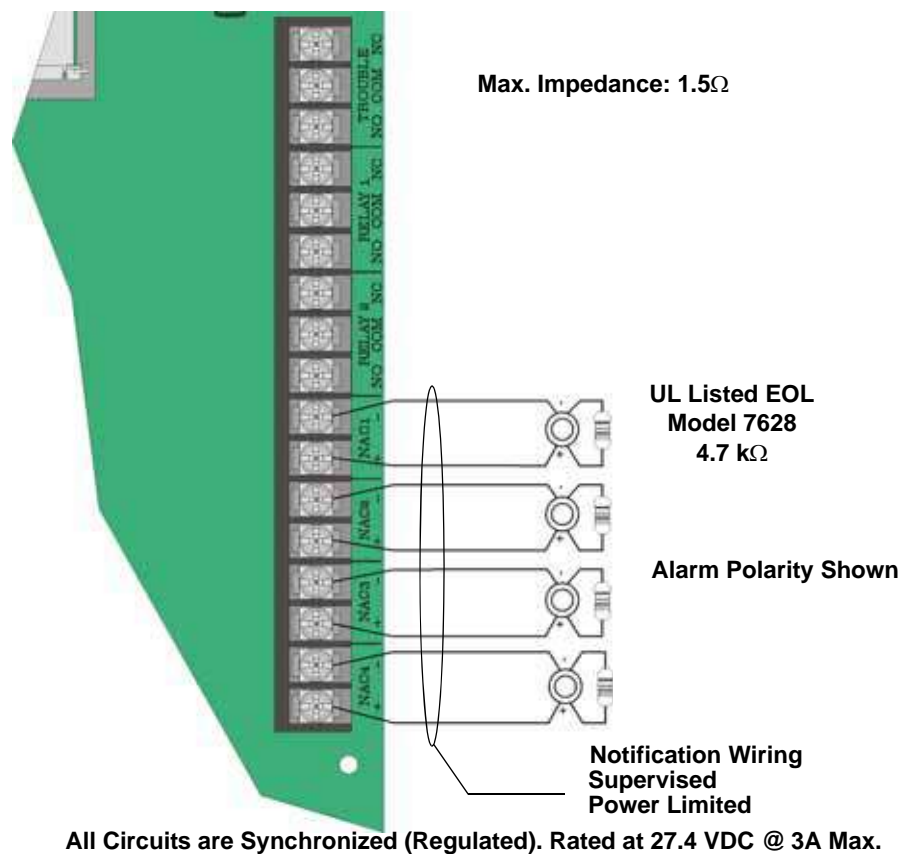

Figure 4-33 Class B Notification Appliance Circuit Wiring
1. Wire Class B Notification appliances as shown in Figure 4-33.